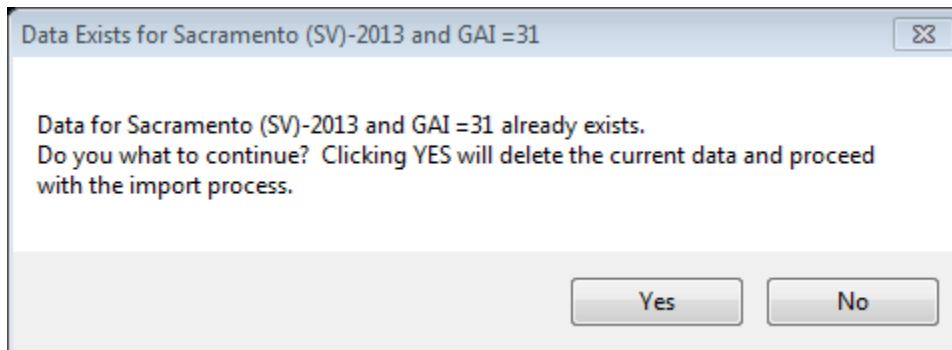

Figure 5-15 HD Data Exists
- If the data already exists in the database (Year & Region / Area) the database will display Figure 5-15 indicating that the data exists and provides two options for proceeding.